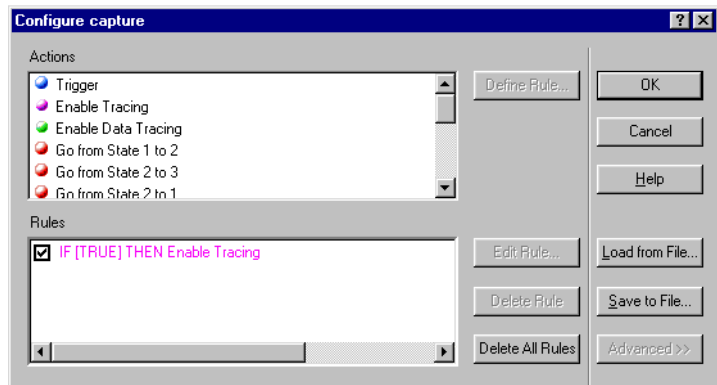

Figure 8-9 Configure capture dialog box
4. Click **Finish** to create this rule. The Configure capture dialog box now shows the new Enable Tracing rule in the Rules list, as shown in Figure 8-9.